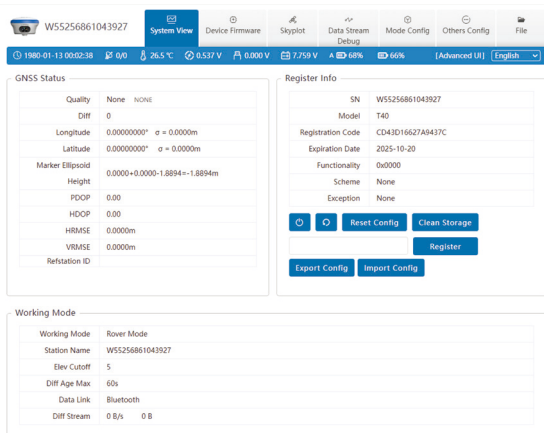

Figure 2-1
2. Open the web browser and input the IP address 10.10.10.10. The interface is shown in Figure 2-1.